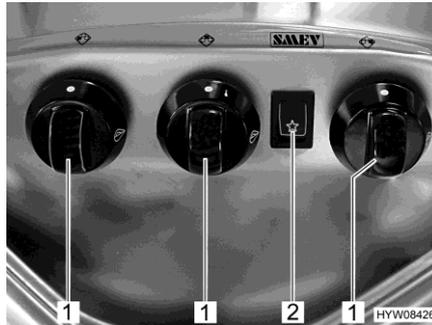

Fig. 190 Operating controls (gas cooker)
- Turn the control knob (Fig. 190,1) on the burner you wish to use to the ignition position (large flame).
- Press rocker switch (Fig. 190,2). Ignition sparks are generated at the burner.